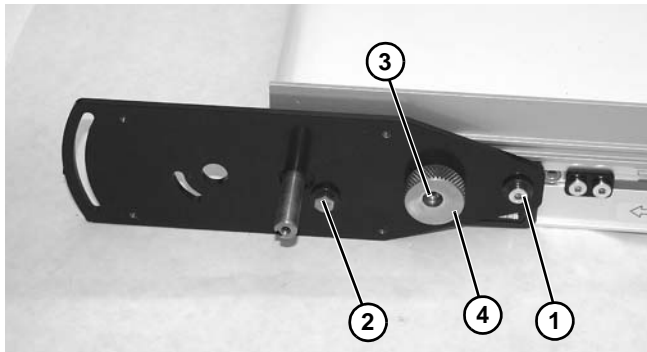

Figure 78
3. Loosen screws (**Figure 78, item 1, 2, and 3**) from both sides of conveyor. Turn cam knob (**Figure 78, item 4**) to remove belt tension.